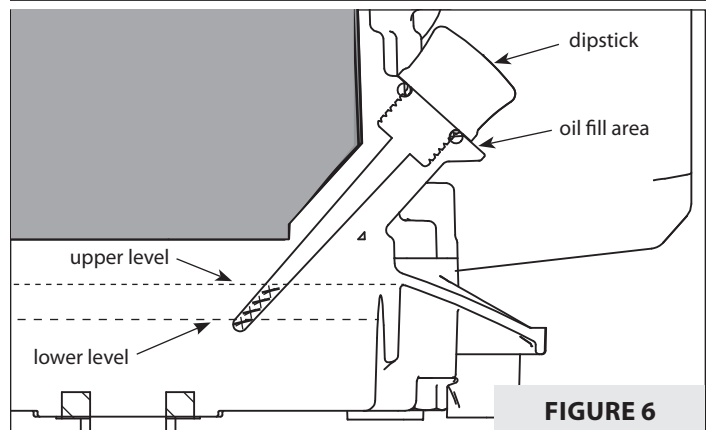

FIGURE 6
2. Remove dipstick and carefully tip the engine toward the dipstick side to empty oil from oil fill area. Empty oil into a suitable oil container and dispose of oil properly. **SEE FIGURE 6.**
3. Tip engine back onto a level surface and fill with appropriate oil to the top of the marking on the dipstick. **SEE FIGURE 6.**